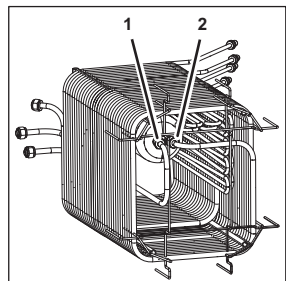

Figure 93
20. Disconnect the soda cooling line from the coupling (Figure 93/1).
21. Disconnect the soda water line from the coupling (Figure 93/2).
26. Attach the soda water line to the coupling (Figure 93/2).
27. Attach the soda cooling line to the coupling (Figure 93/1).